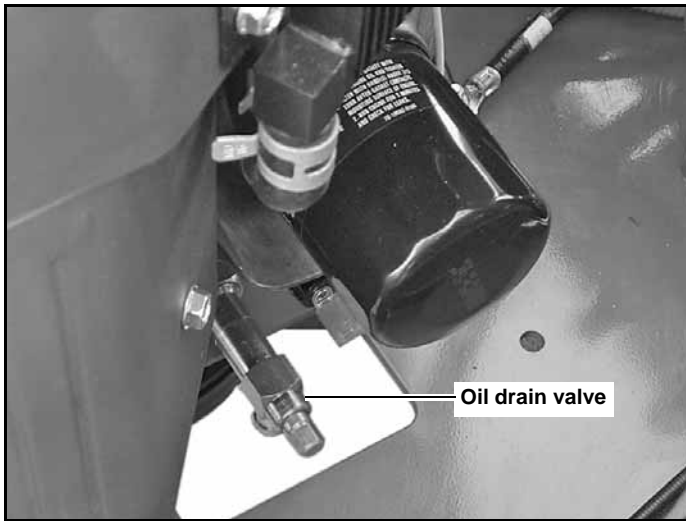

Figure 4-6
1. Locate the oil drain valve on the engine. Figure 4-6,